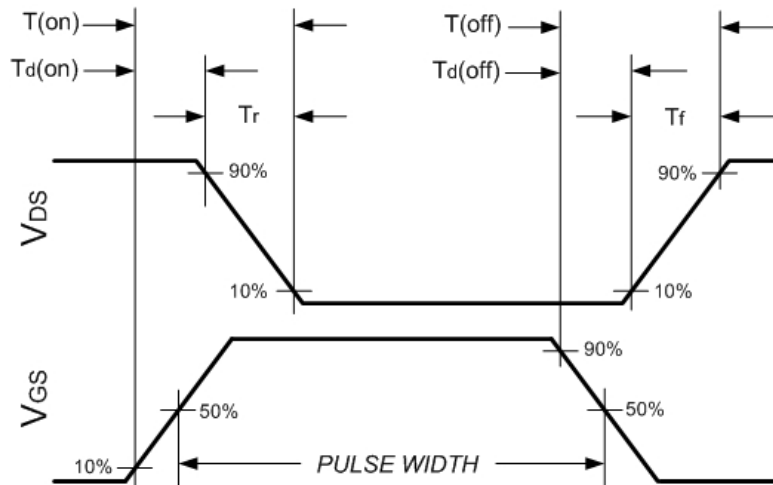

Figure 1. Switching Characteristics Waveforms and Symbols
4. Refer to Figure 1 for definition of switching characteristics symbols.